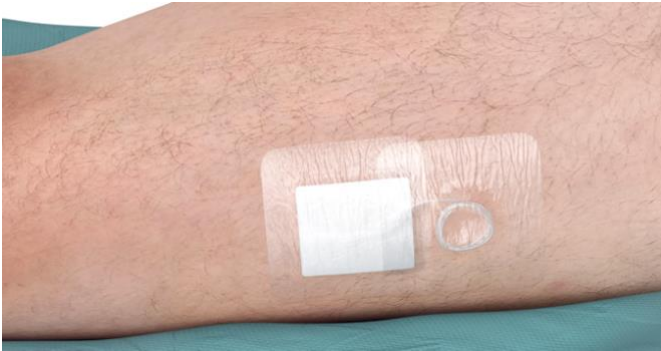

Figure 5
4. Cover the entry points with sterile dressing and place additional bandage over the remaining device tubing/knots to secure to body externally (see Figure 5).